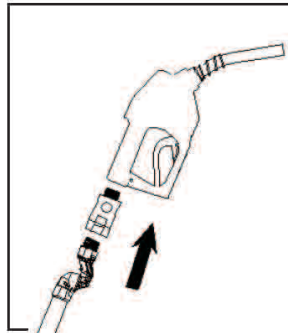

FIGURE 2/ 图 2
- OPW sight glass should be installed between the inlet of nozzle and the outlet of hose.(Figure 2)
- OPW 视油镜安装于加油枪进油口与旋转接头之间。(图 2)